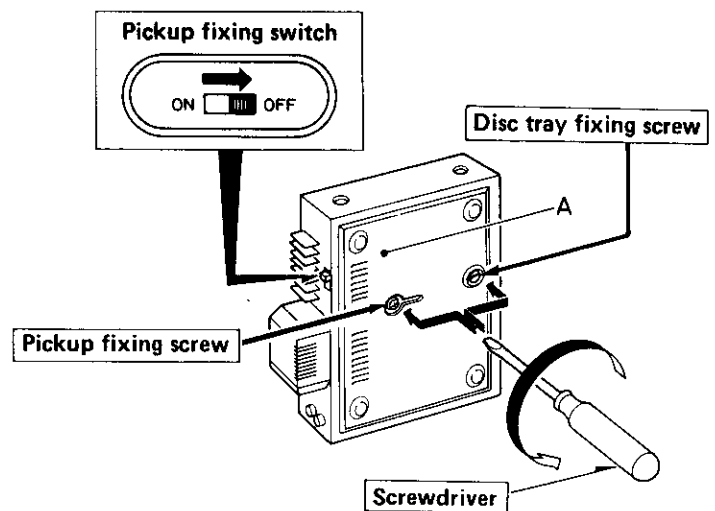

Fig. 1
3. Set the PICK-UP FIXING SWITCH located on the back of the unit to the OFF position (Fig. 1).